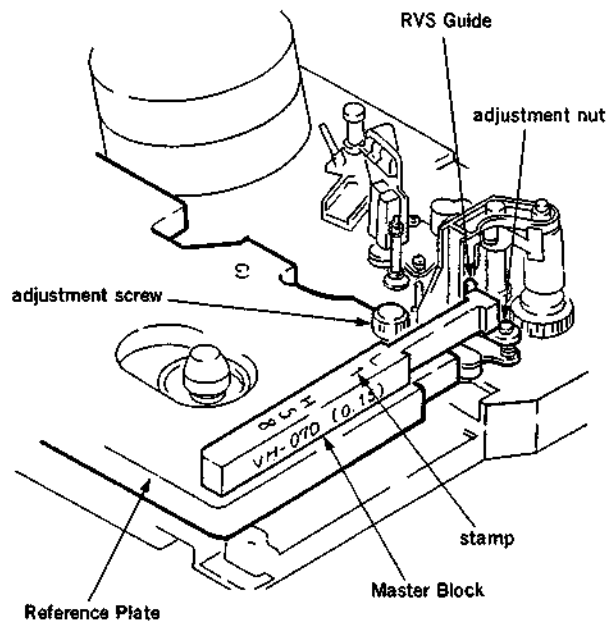

Fig. 3
- (1) Press the PLAY button on the remote controller for the threading completion mode. (Refer to Sec. 4-1-3.)
- (2) Clean the mounting face of the reference plate and the four mounting faces on the chassis with cleaning fluid.
- (3) Install the reference plate on the chassis. (Fig. 3)
- (4) Clean the top of the reference plate and the adjustment face of the master block with cleaning fluid.
- (5) Set the master block with the stamped LI face upward, then place it against the RVS guide from the direction shown in the figure. (Fig. 3)